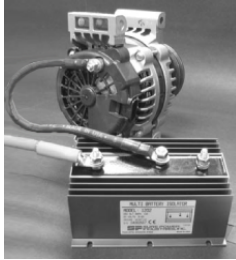

FIGURE 3
5. Connect one end of a **new wire** of the proper size (see Application Chart - Recommended Wire Size on page 1) to the battery "BAT" terminal of the alternator and the other end to the "A" terminal of the isolator. This should now be the only wire connected to either of these terminals. See Figure 3.